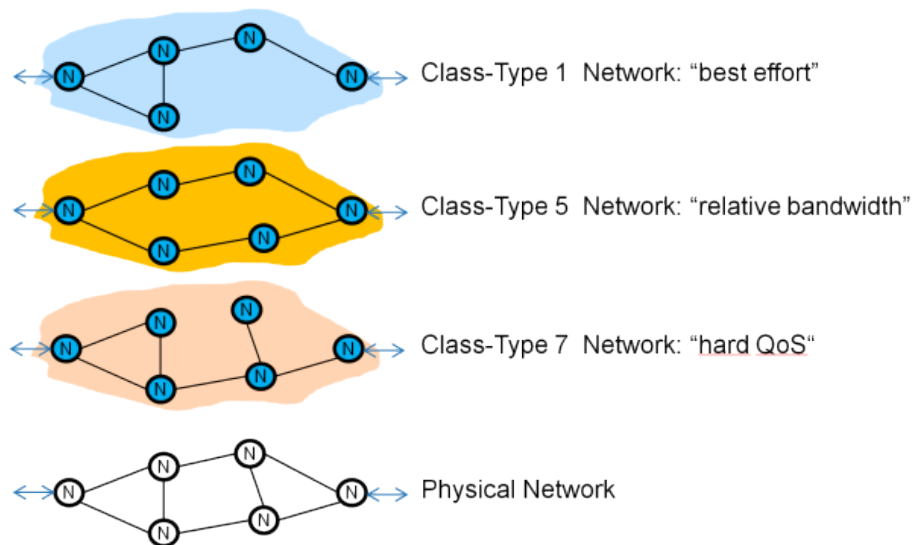

Figure 5: Sample Class Type Concept
- AC VLAN Based, Change Tag (figure 5).